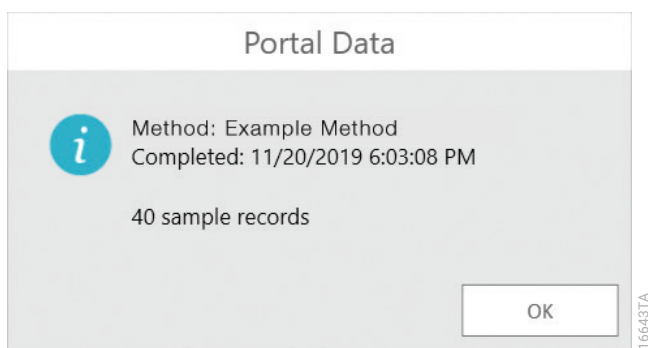

Figure 40. Example ‘Portal Data’ summary screen. The ‘Portal Data’ screen presents a summary of the data that was retrieved from the Portal software.
6. If the search is successful, a ‘Portal Data’ summary screen is shown indicating the method that was used to create the plate map, the date on which the method was completed and the number of samples on the plate (Figure 40). Tap the **OK** button to dismiss the ‘Portal Data’ screen